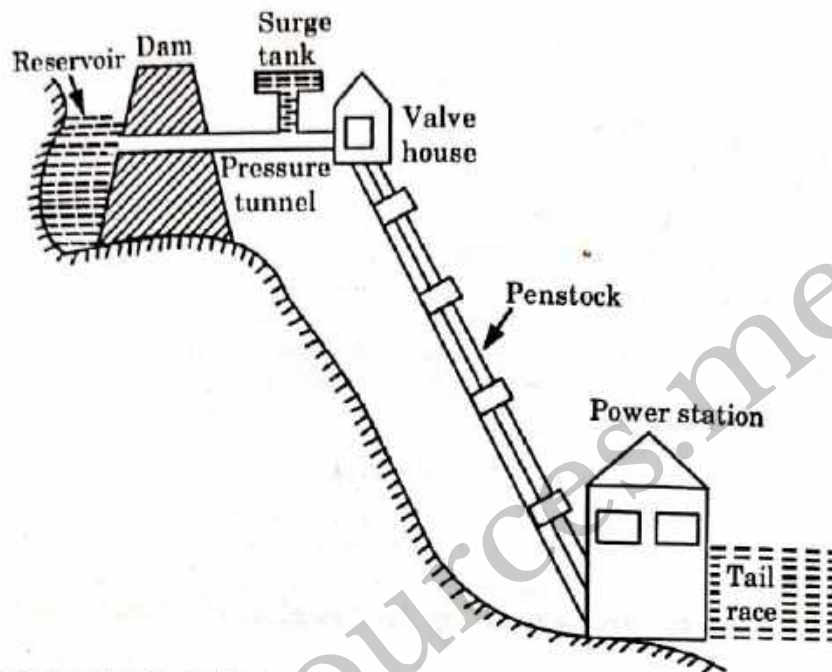

Fig. 4.26.1. General layout of a hydroelectric power plant.
A. General Layout : Fig. 4.26.1 shows a general layout of a hydroelectric power plant in which an artificial storage reservoir formed by constructing dam has been shown.